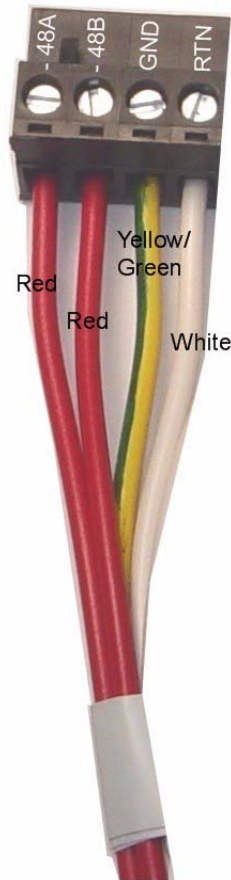

FIGURE 1-12 9100 PEM plug with connections indicated
2. Using cables colored as in Figure 1-12, strip each 1/4 in. (6.5 mm).